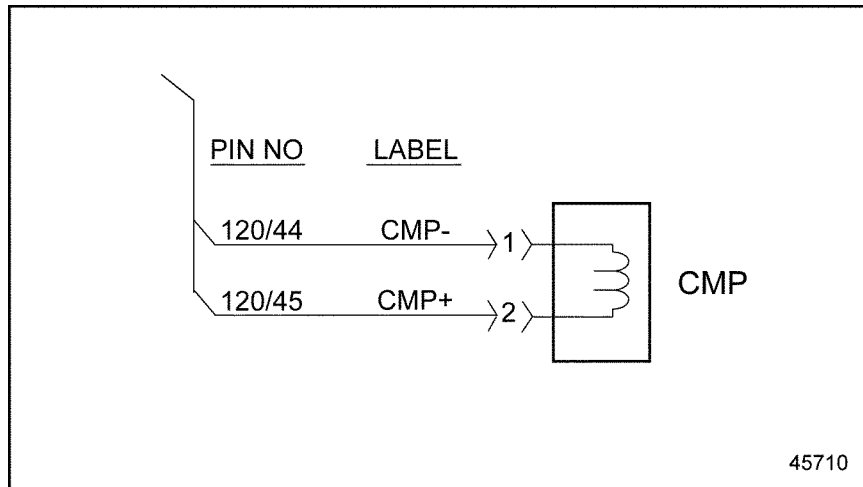

Figure 34-3 Camshaft Position Sensor
3. Ensure that the 120-pin connector wires are not crossed. If crossed, repair as necessary. See Figure 34-3. Refer to section 34.4.1.1.